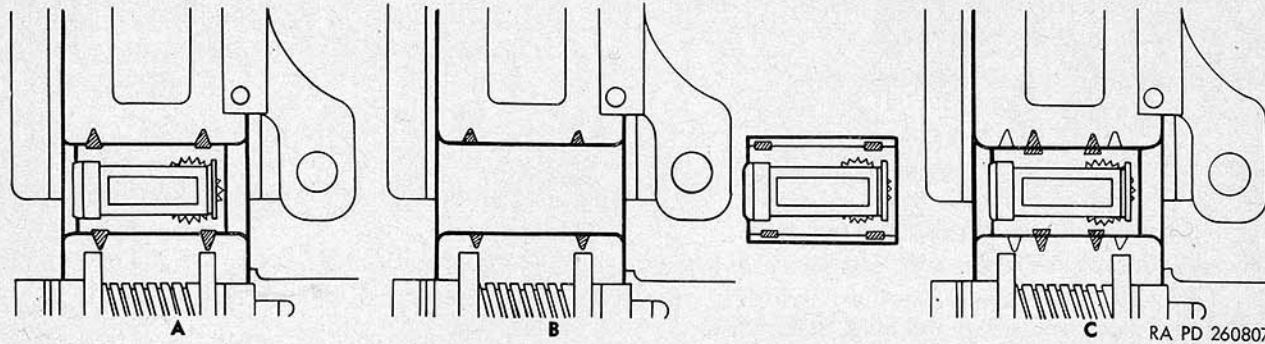

Figure 26. Removing and installing sight.
78. Removal (fig. 26)
Remove staking that retains beveled sight base. Remove sight group from slotted portion of receiver (fig. 26, a and b).
(fig. 26, c and d)